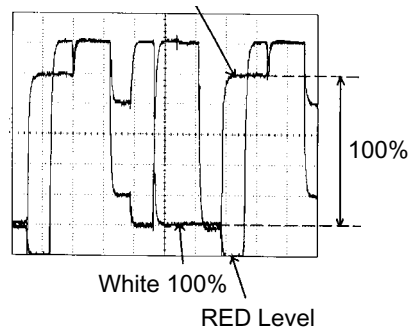

Fig. 2-2
9. Press the VOL. UP/DOWN button on the remote control until the red color level is adjusted to $120 \pm 10\%$ of the white level. (**Refer to Fig. 2-2**)